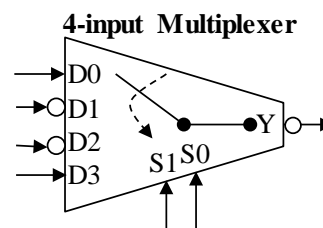

Figure 1: 4-input MUX.
The **multiplexer (MUX)** is a device that acts as a multi-position switch. See Figure 1. A number of DATA inputs are applied to this device (D0-D3) and one of the inputs is switched to the output (Y) of the device. A binary number applied to the SELECT (S1 & S0) lines controls which input is passed to the output. For example, when S1=S0=0, D0 is "logically" connected to the output Y. When S1=0 & S0=1, D1 "logically" connected to Y and so forth for D2 & D3 to connect to Y. Notice that some of the inputs are active-low and some are active-high; the output is active-low.